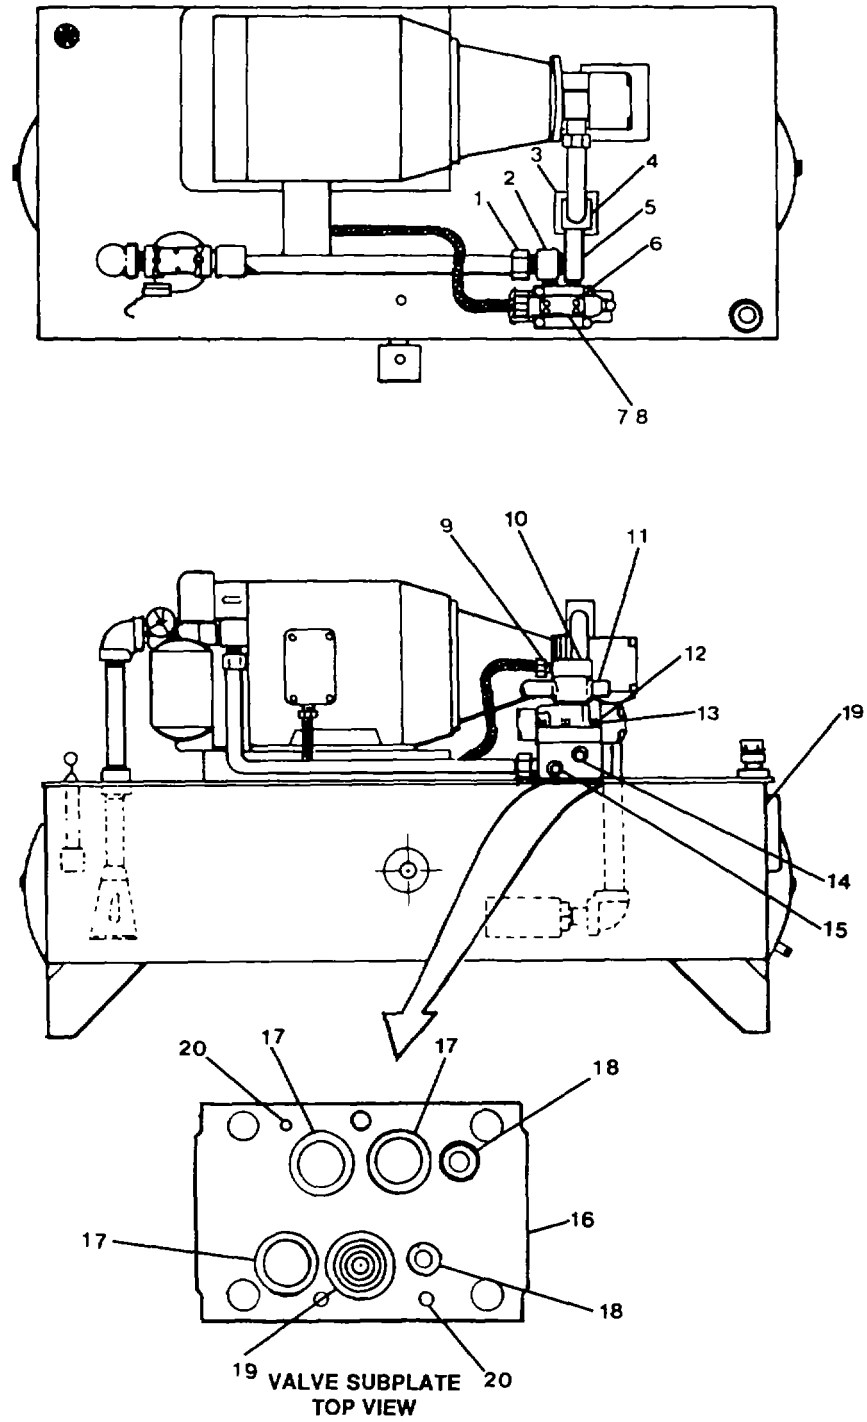

FIGURE 2-9. *Directional Control Valve Component Location.*
- (3) Fill reservoir with hydraulic fluid.
- (4) Disconnect coupler (1) from fitting (2) at top of hydraulic pump (18).
- (5) Disconnect fitting (2) at top port of hydraulic pump.
- (6) Fill pump housing with hydraulic fluid.
- (7) Replace fitting (2) at top port of hydraulic pump.
- (8) Connect coupler (1) to fitting (2).
**2-18. Replace Directional Control Valve. (FIGURE 2-9)**